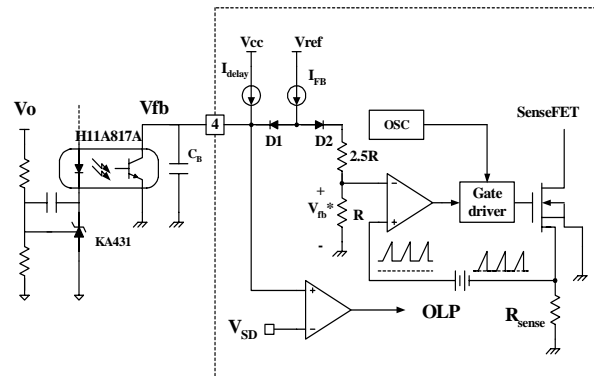

Figure 11. Pulse width modulation (PWM) circuit
3. Feedback Control : FSCQ0765RT employs current mode control, as shown in Figure 11. An opto-coupler (such as the H11A817A) and shunt regulator (such as the KA431) are typically used to implement the feedback network. Comparing the feedback voltage with the voltage across the R_{sense} resistor plus an offset voltage makes it possible to control the switching duty cycle. When the reference pin voltage of the KA431 exceeds the internal reference voltage of 2.5V, the H11A817A LED current increases, thus pulling down the feedback voltage and reducing the duty cycle. This event typically happens when the input voltage is increased or the output load is decreased.
3.1 Pulse-by-pulse current limit: Because current mode control is employed, the peak current through the Sense FET is limited by the inverting input of PWM comparator (V_{fb}^*) as shown in Figure 11. The feedback current (I_{FB}) and internal resistors are designed so that the maximum cathode voltage of diode D2 is about 2.8V, which occurs when all I_{FB} flows through the internal resistors. Since D1 is blocked when the feedback voltage (V_{fb}) exceeds 2.8V, the maximum voltage of the cathode of D2 is clamped at this voltage, thus clamping V_{fb}^* . Therefore, the peak value of the current through the Sense FET is limited.